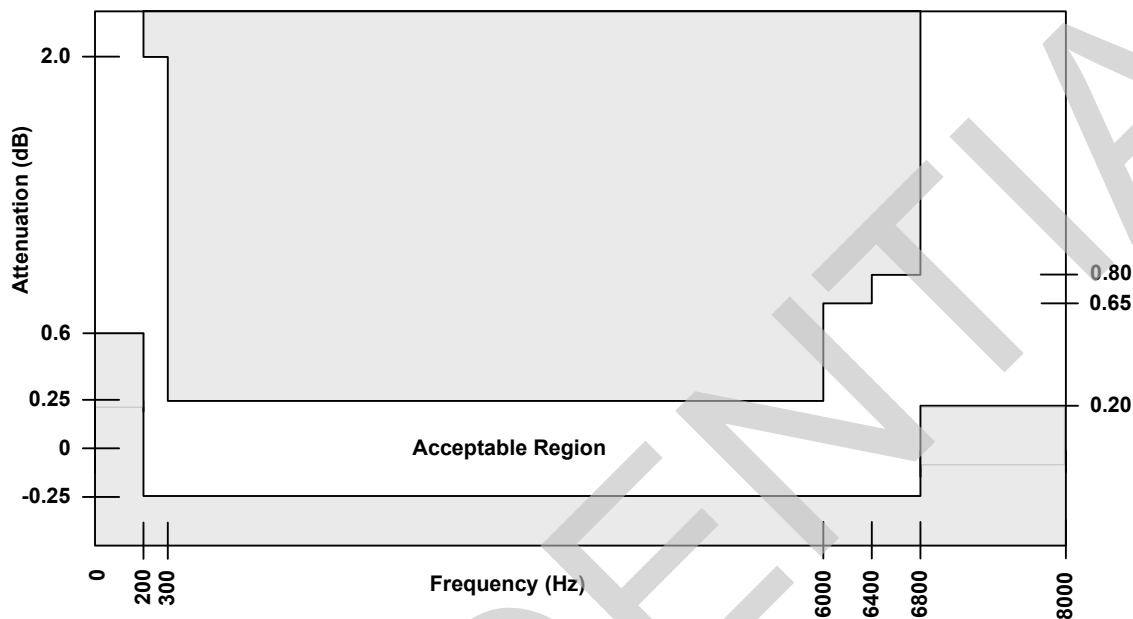
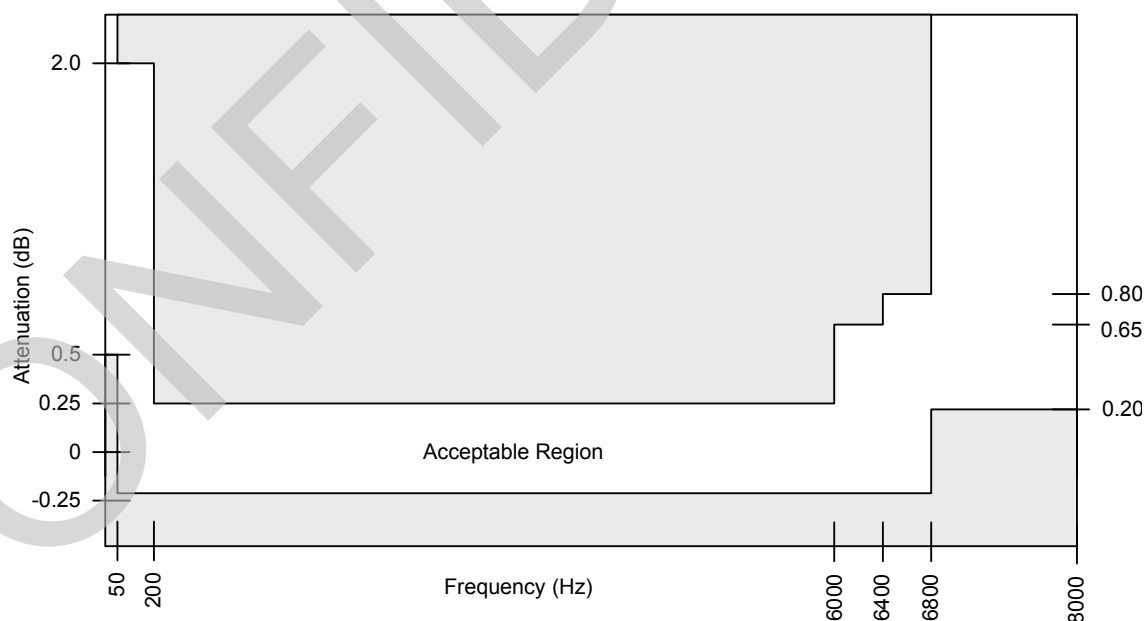

Figure 23 - Transmit (A to D) Path Attenuation vs. Frequency – (with High-Pass Filter Enabled)
Figure 24 - Receive (D to A) Path Attenuation vs. Frequency
3. See Figure 23 on page 41 and Figure 24 on page 41.
The signal attenuation in either path is nominally independent of the frequency. The deviations from nominal attenuation will stay within the limits shown in Figure 23 and Figure 24. The reference frequency is 1014 Hz and the signal level is -10 dBm0.